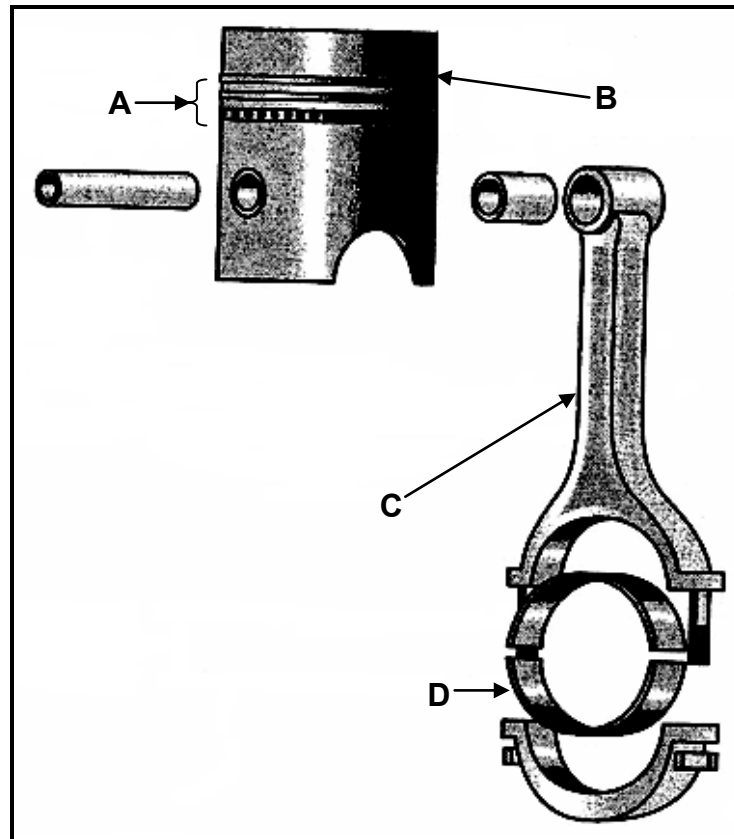

FIGURE 14.3
14.3 FIGURE 14.3 below shows a piston assembly. Label parts A–D.